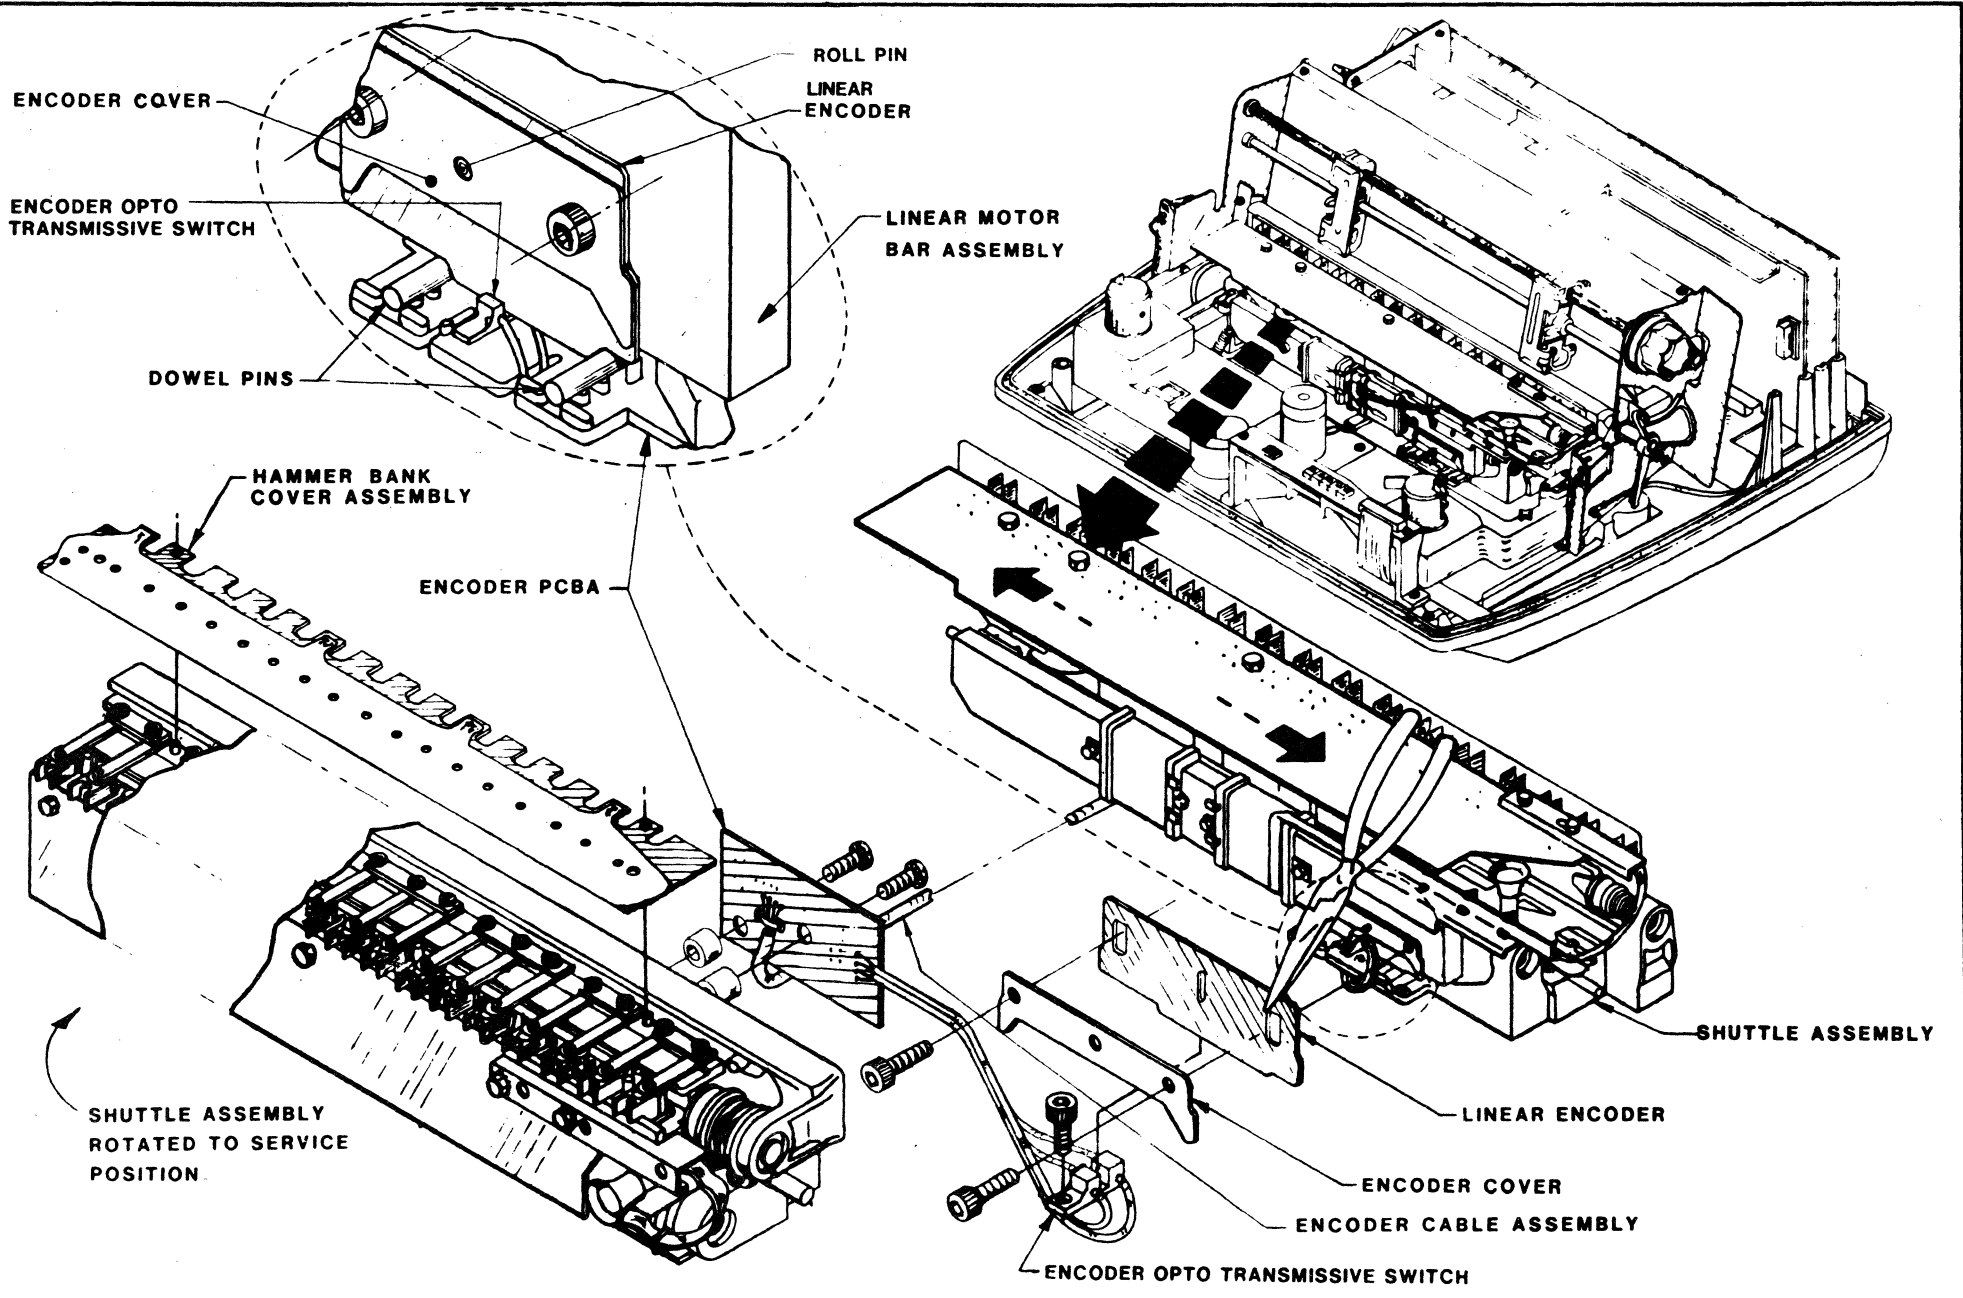

Figure 3-11. The Linear Encoder and the Encoder PCBA
To remove the Linear Encoder, refer to **Figure 3-11** and proceed as follows:
1. Place two 3/16 in. by 1 in. dowel pins in the slots in the shuttle (**Figure 3-11**).
To remove the Encoder PCBA, refer to **Figure 3-11** and perform the following steps: